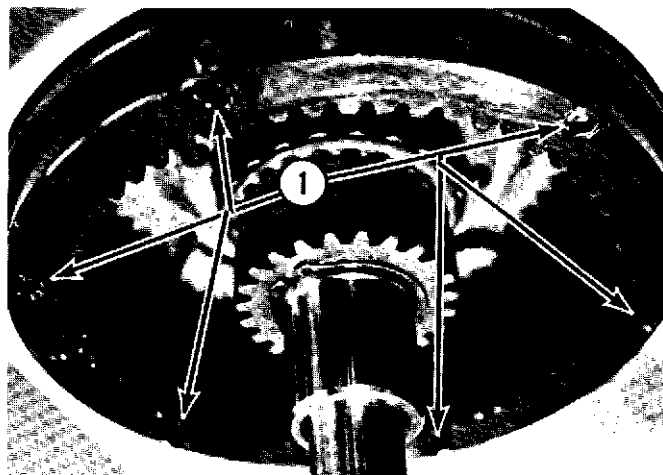

Fig. 10-17
- A. With the planetary removed from the mixer, loosen the six socket head screws (1, Fig. 10-17) that holds the internal gear in the transmission case.